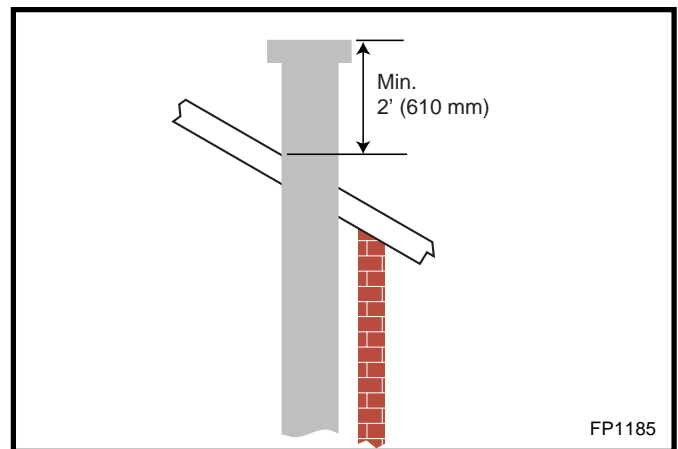

Fig. 39 Minimum termination to roof clearance.
- The minimum height of the vent above the highest point of penetration through the roof is 2' (610mm). (Fig. 39) Refer to note 2, Page 13.
10. Add additional vent lengths for proper height. (Fig. 39)